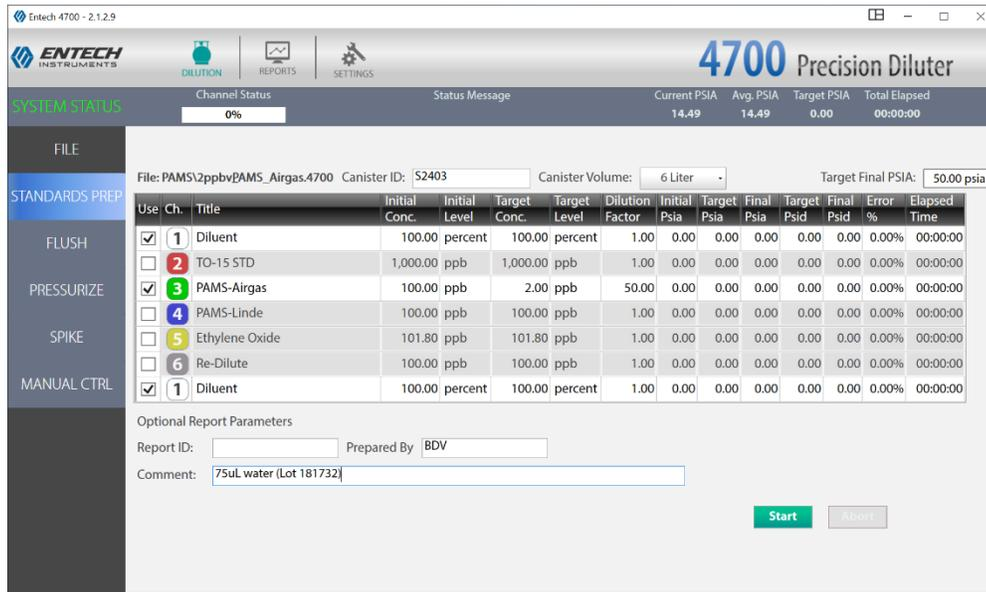

Figure 11: Entech 4700 Precision Diluter Preparation Example for Canister S2403
- 2 Fill in the “Canister ID” field with the canister number (format: S#####), delete/empty the Report ID field, put the operator initials in the prepared by field, and put the 75- μ L aliquot of DI water into the comment field with the lot number. An example for canister S2403 is shown in Figure 11: